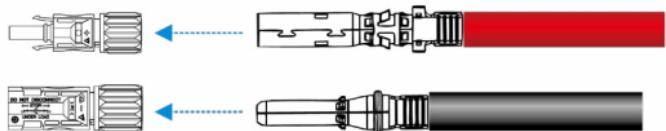

Figure 5.12 Connecting positive and negative connectors
**Step 3** Insert the crimped positive and negative power cables into the corresponding positive and negative connectors until a “click” sound is heard, as shown in **Figure 5.12**.